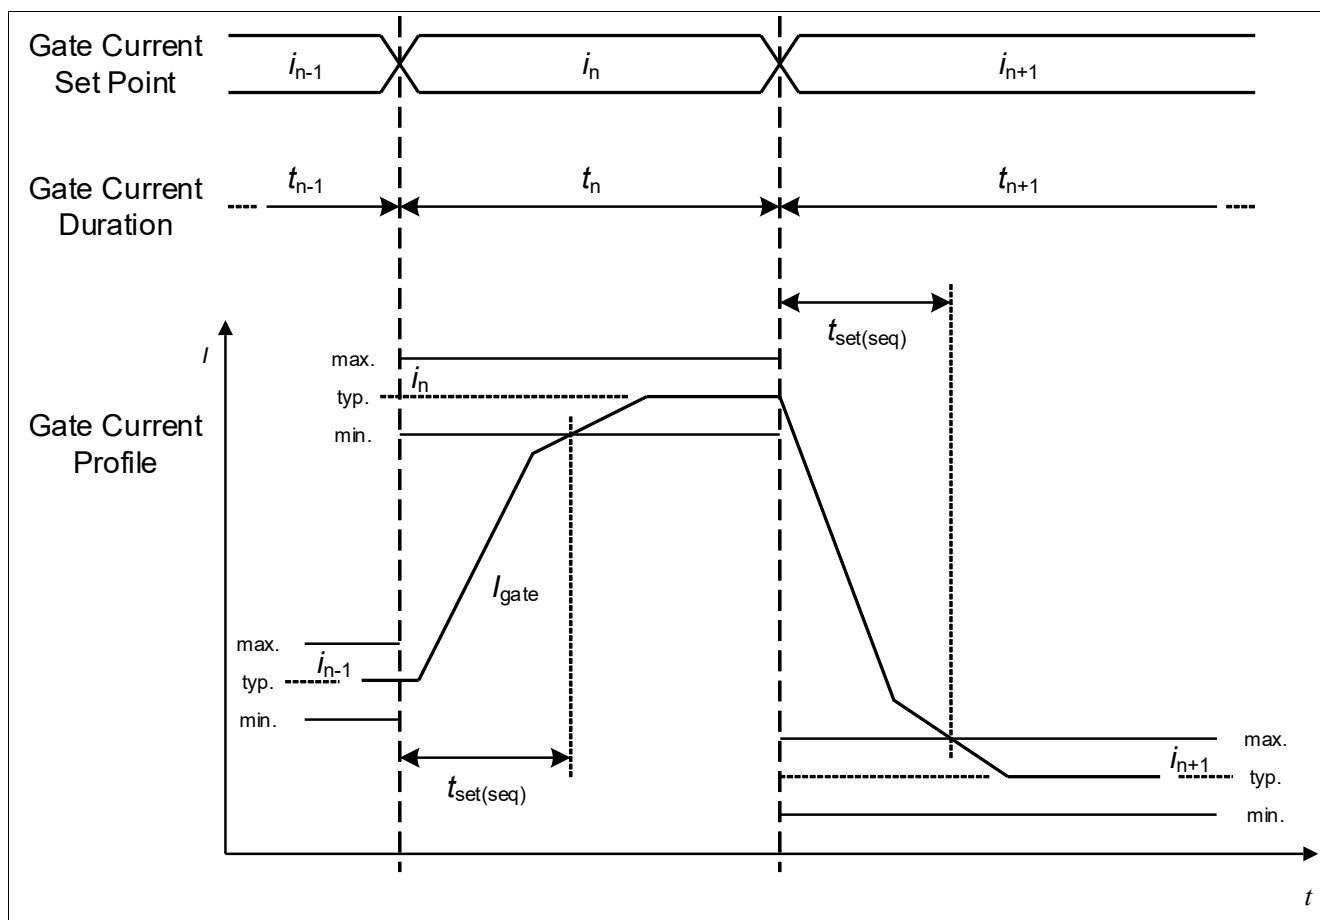

Figure 38 Gate current settling time
- At the transition between two gate current set points the actual gate driver output current settles within $t_{set(seq)}$ to the new gate current set point (see **Figure 38**).